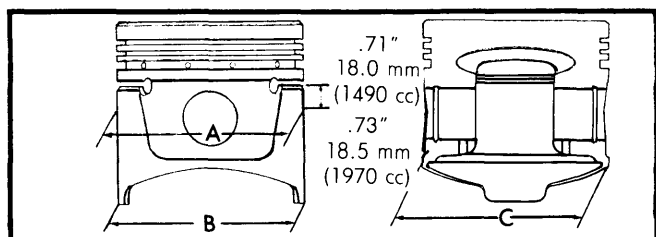

Fig. 10 Points for Measuring Piston
2) Carefully inspect pistons and replace those severely damaged due to scoring, scratching or burning. Measure pistons at points A, B, and C as shown in Fig. 10, using a micrometer. If piston is not within specifications, replace piston and rebores cylinder.